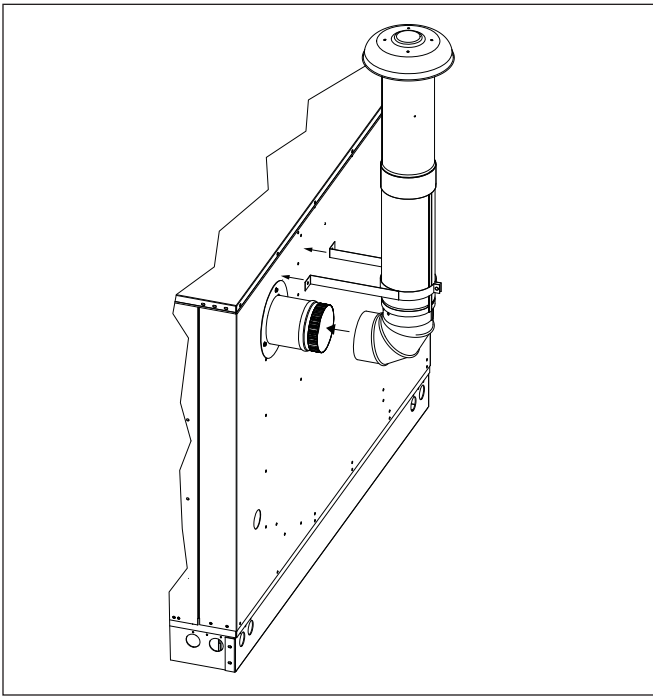

Figure 5. Start Collar Insertion
8. Slide the 90 degree elbow onto the start collar taking care that the start collar is fully inserted. During this process also ensure that flue support bracket has the legs facing toward the unit. See Figure 5 for detail.